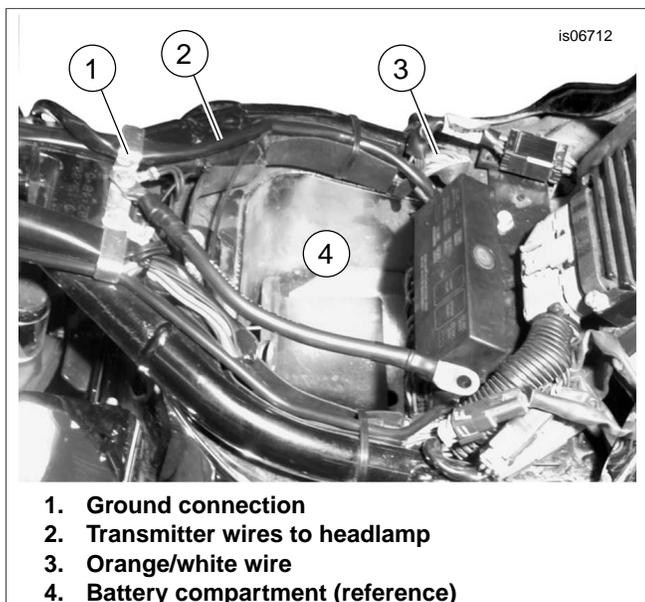

Figure 5. Power and Ground Connections, 2000 and Later Softails (FLSTC Shown)
4. See Figure 5. Route the transmitter wires (2) up to the battery compartment (4) and along the right side of the frame.